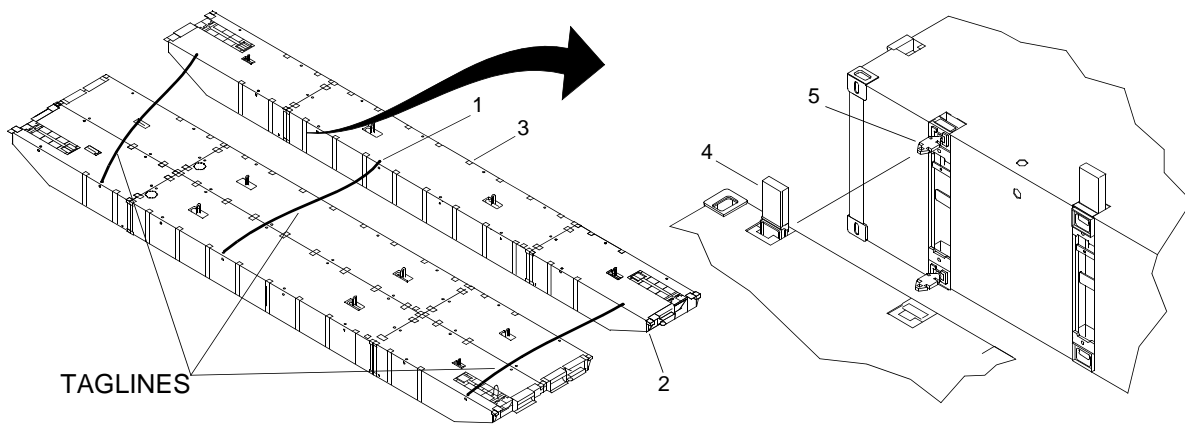

Figure 16. Assembly of Intermediate Section in Water
- Attach tag lines to turn tubes (figure 16, item 1) and ISO corner fittings (figure 16, item 2).
- Using tag lines, maneuver module strings (figure 16, item 3) so that female connectors (figure 16, item 4) align with male connectors (figure 16, item 5).